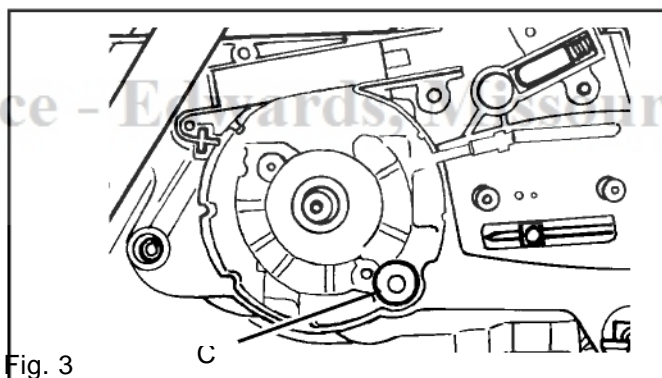

Fig. 3
6. Use pointed pliers to pull free the suction pipe (C) and sieve. See fig. 3.
1. Push the suction pipe (C) into the hole in the crankcase. See fig. 3.
- Pump unit, C in fig. 3.